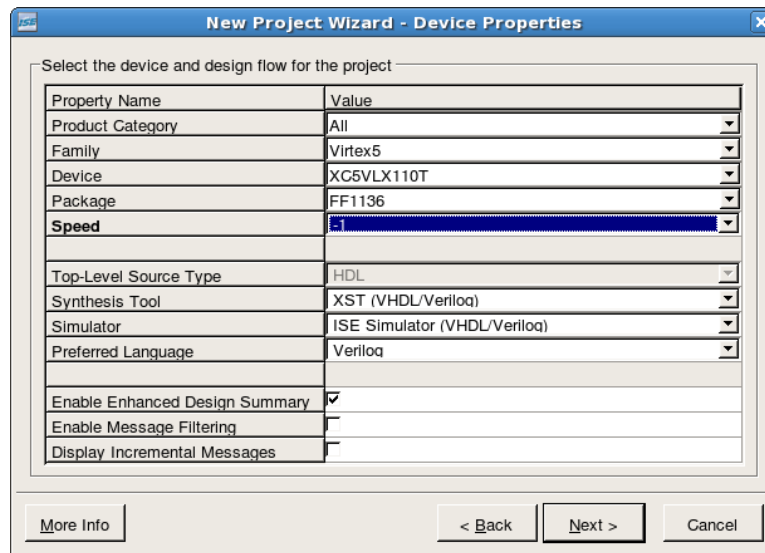

Figure 2: Device Properties
- (c) Next, the 'Device Properties' window appears (Figure 2).